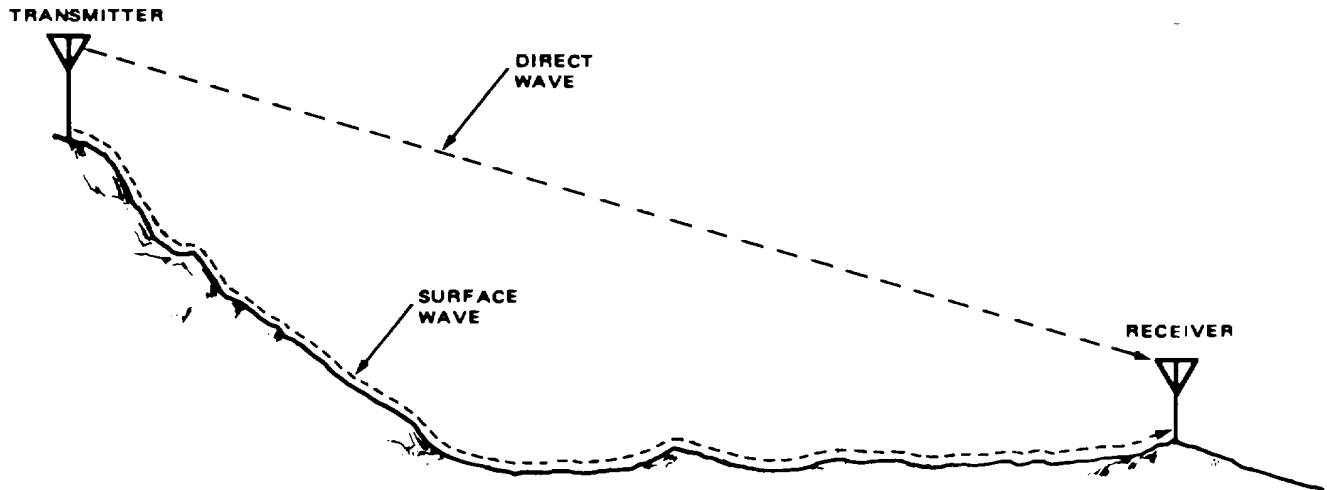

Figure A2-1. Ground Wave Propagation
**A2-5. GROUND WAVE (Figure A2-1).** There are two types of ground waves which exist in various magnitudes depending on the frequency, type of antenna and terrain conditions.